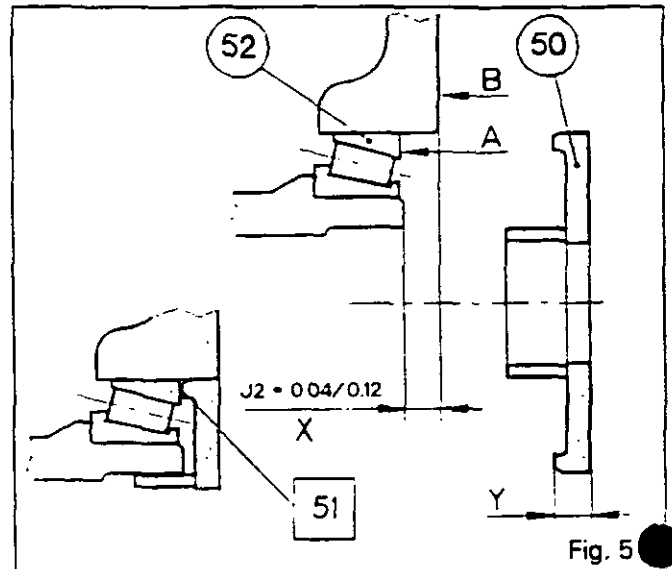

Fig. 5
**J2 = 0.04 to 0.12 mm** (Fig. 5)
29. Using a depth gauge, measure the dimension **X** between face **A** of the cup (52) and face **B** on the housing (see Fig. 5).
30. Measure the thickness **Y** of the deflector (50).
**Note: Do not forget to fit the bolt (1) on the housing (Fig. 5), Section 5 X01.**
4. Remove the plugs (1), springs (2) and locking plungers (3) (See Fig. 5).